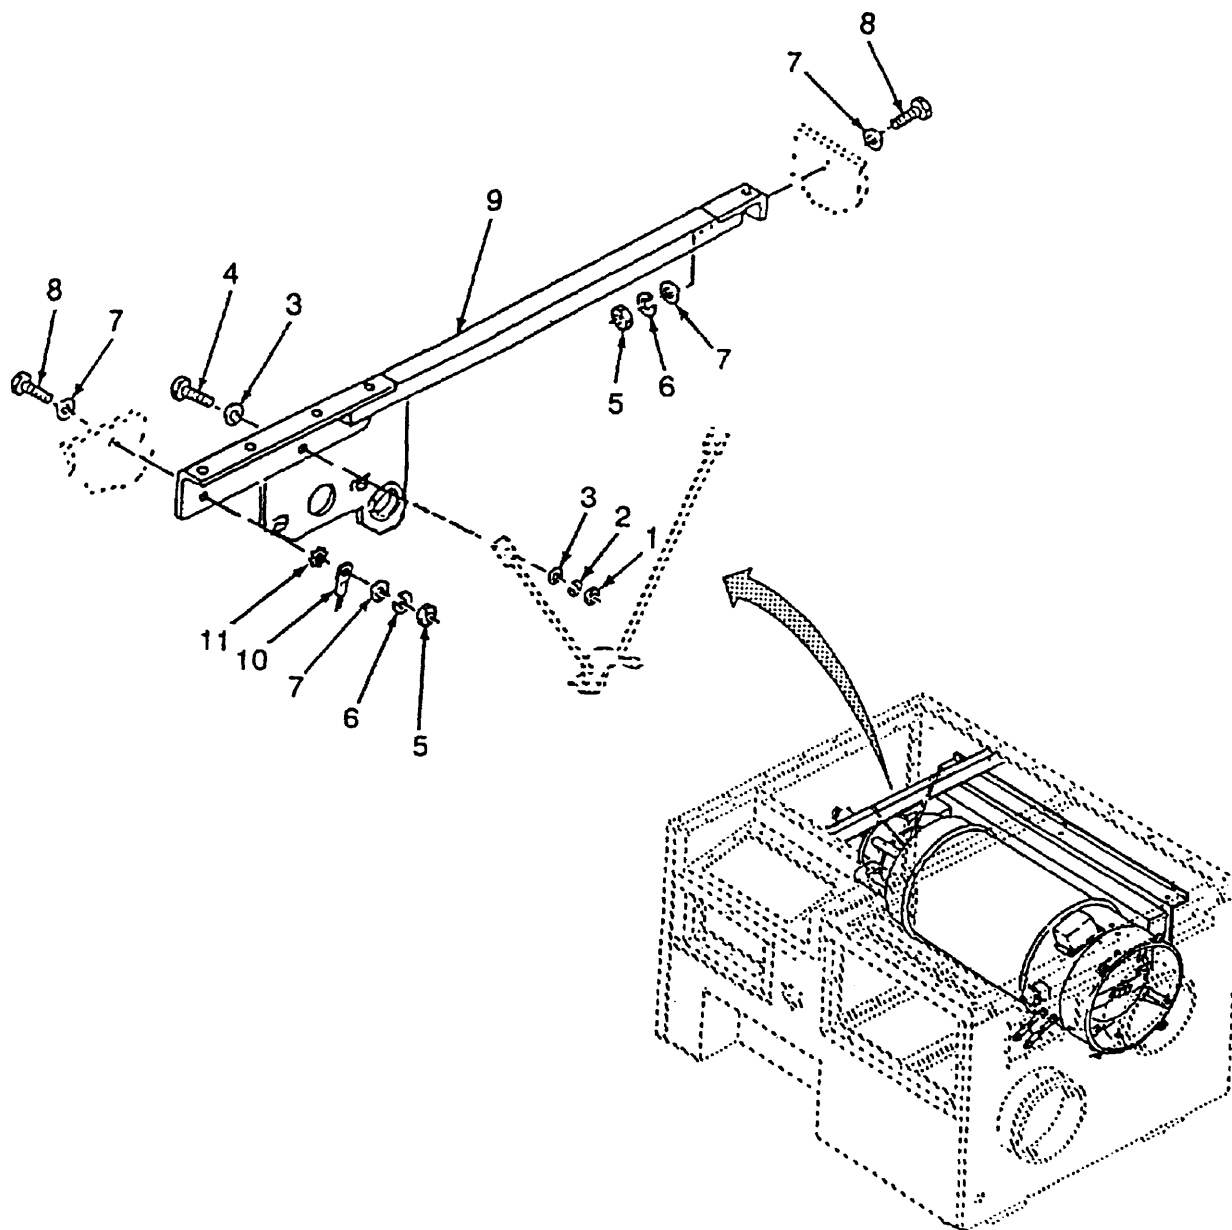

Figure 5-11. Heat Exchanger, (Model H120) Removal
**5-6. HEAT EXCHANGER ASSEMBLY, (Model H120) - continued.****a. Removal - continued (Refer to Figure 5-11)**
- (5) Remove two nuts (1), two lockwashers (2), four flat washers (3) and two screws (4). Discard lockwashers.
- (6) Remove one nut (5), one lockwasher (6), two flat washers (7) and one screw (8) from left side of brace (9). Discard lockwashers.
- (7) Remove second nut (5), second lockwasher (6), two flat washers (7), ground wire (10), star lockwasher (11), second screw (8) and brace (9).